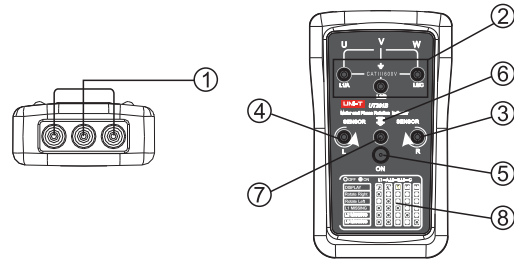

Figure 1
See the instrument indicator, button and jack as shown in Figure 1:
- Press down "ON" button, UT261B power indicator illuminates, release it, the button springs up automatically and the indicator turns off. Therefore you need to press down "ON" button in order to begin the test. When ON is pressed down, "Clockwise" (R) or "Counter-clockwise" (L) rotation indicator illuminates, indicating three-phase system is under "Positive" or "Negative" phase sequence.
- Place UT261B towards the motor, in parallel with motor shaft. The bottom of the instrument should face the shaft (namely, UT261B is located in a direction contrary to that of the motor). Refer to Figure 1 for motor location indicator.